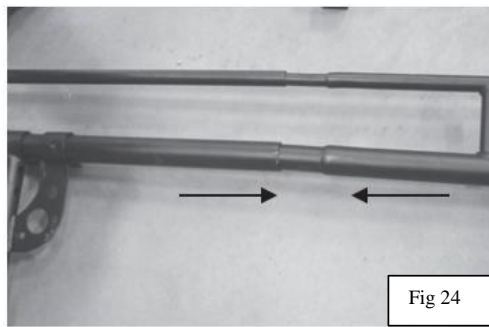

Fig 24
6. Slide the front and rear siderail assemblies together. (Fig 24)